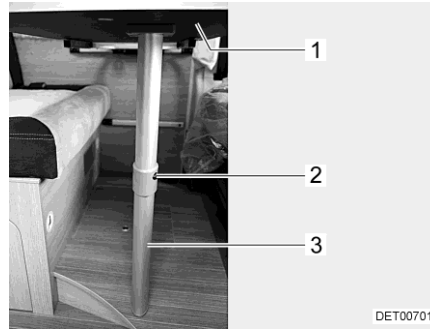

Fig. 71 Bed foundation
- Slightly raise the front of the table top (Fig. 71,1).
- Press the release knob (Fig. 71,2) and fold the lower part of the fold-out leg (Fig. 71,3) by 90°.